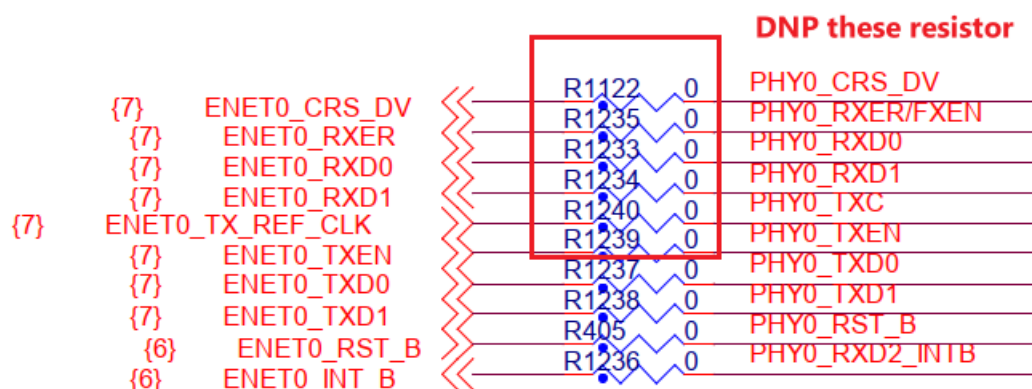

Figure 28. Step 1
1. Remove the resistors R1122, R1239, R1240, and resistors R1233 to R1235 as shown in Figure 28.